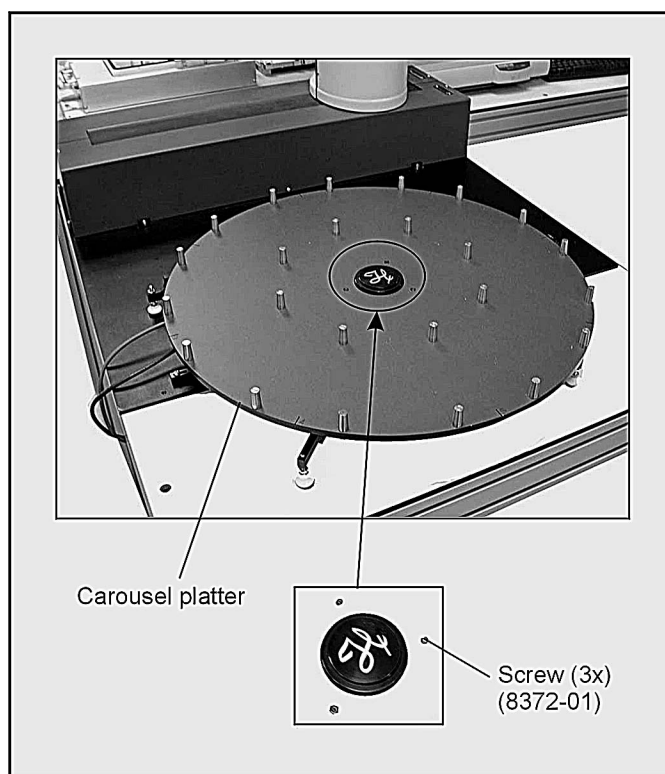

Figure 10: Carousel platter
1. Place the carousel platter on top of the carousel housing assembly. See figure 10. Align the three holes in the platter with the threaded holes in the housing assembly.